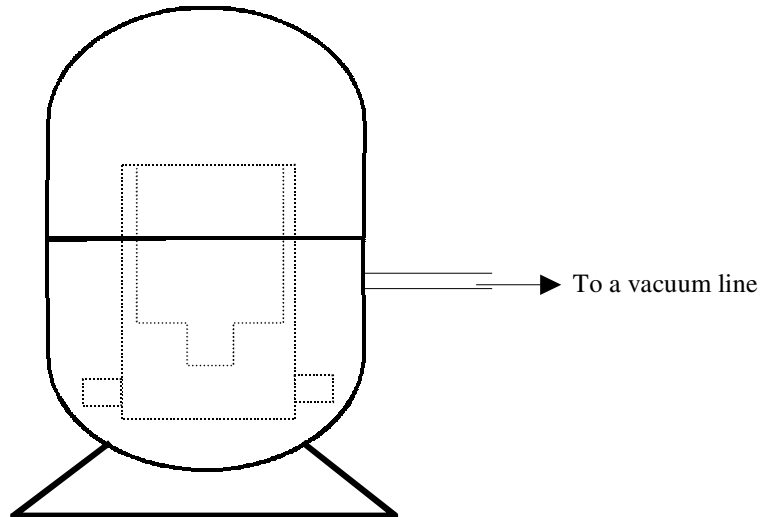

Figure 5-5: Vacuum degas for the BDS oxygen sensor
- (1). **Gas leak:** Make sure to use new VCR gaskets, high quality valves and gas regulator for the sampling system. Tighten each connection.
- (2). **Improper gas flow rate:** adjust the inlet pressure to obtain 0.5 – 1 SLPM flow rate.
- (3). **Improper calibration of the analyzer:** Turn the analyzer off, then turn back on again. Press the System Key when prompted by the analyzer “Press the System for default Values”. This will return the analyzer to its defaults settings in calibration and zero values. Recalibrate the analyzer with a high quality standard gas if it is necessary.
- (4). **Just after adding water:** The analyzer will recover by itself.
- (5). **Gas entered and been trapped in the sensor:** It could happen if the sensor is filled with the electrolyte improperly, or the sensor is pressurized because of a clogged vent. If this is what happened, uninstall the sensor and take off the cap carefully, then apply a vacuum degas process as shown in the figure 5-5. 28 inch mercury vacuum for 5 minutes is sufficient to remove the gas bubbles. A low cost vacuum degas kit (TAI P/N B72098) is available from Teledyne Analytical Instruments. Reinstall the sensor into the analyzer.